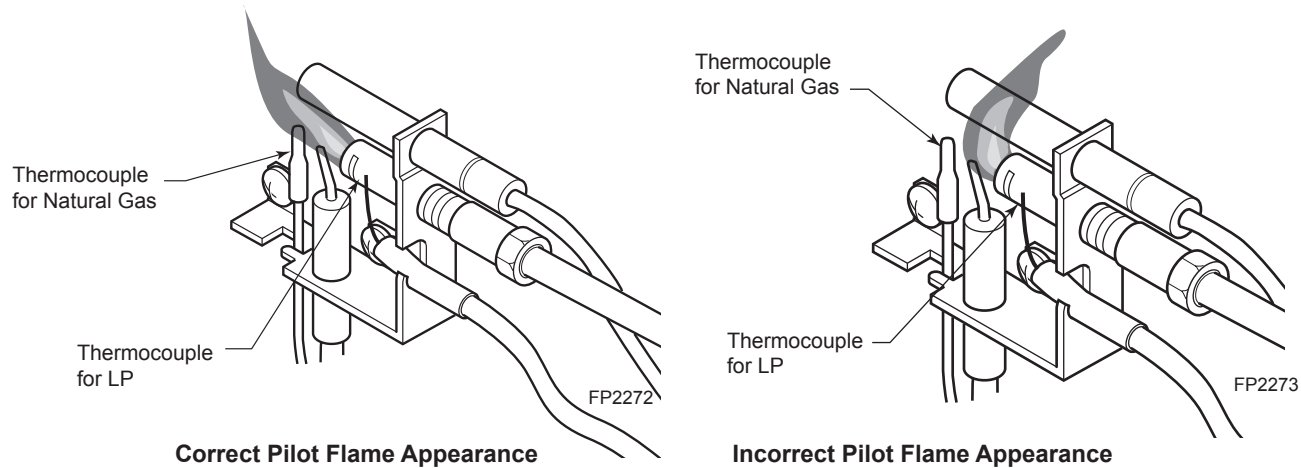

Figure 23 -
The pilot flame must always be present when the heater is in operation. It should just touch the top of the thermocouple tip for natural. Refer to Figures 23 & 24 for correct pilot flame.
If the pilot flame does not touch the thermocouple, then the main burner cannot function reliably. Refer to Figures 23 & 24 for incorrect shape of pilot flame.
4. Refer to Page 22, Figure 23 for the location of the piezo ignitor and control knob. Push in gas control knob slightly and turn control knob clockwise to the OFF position.